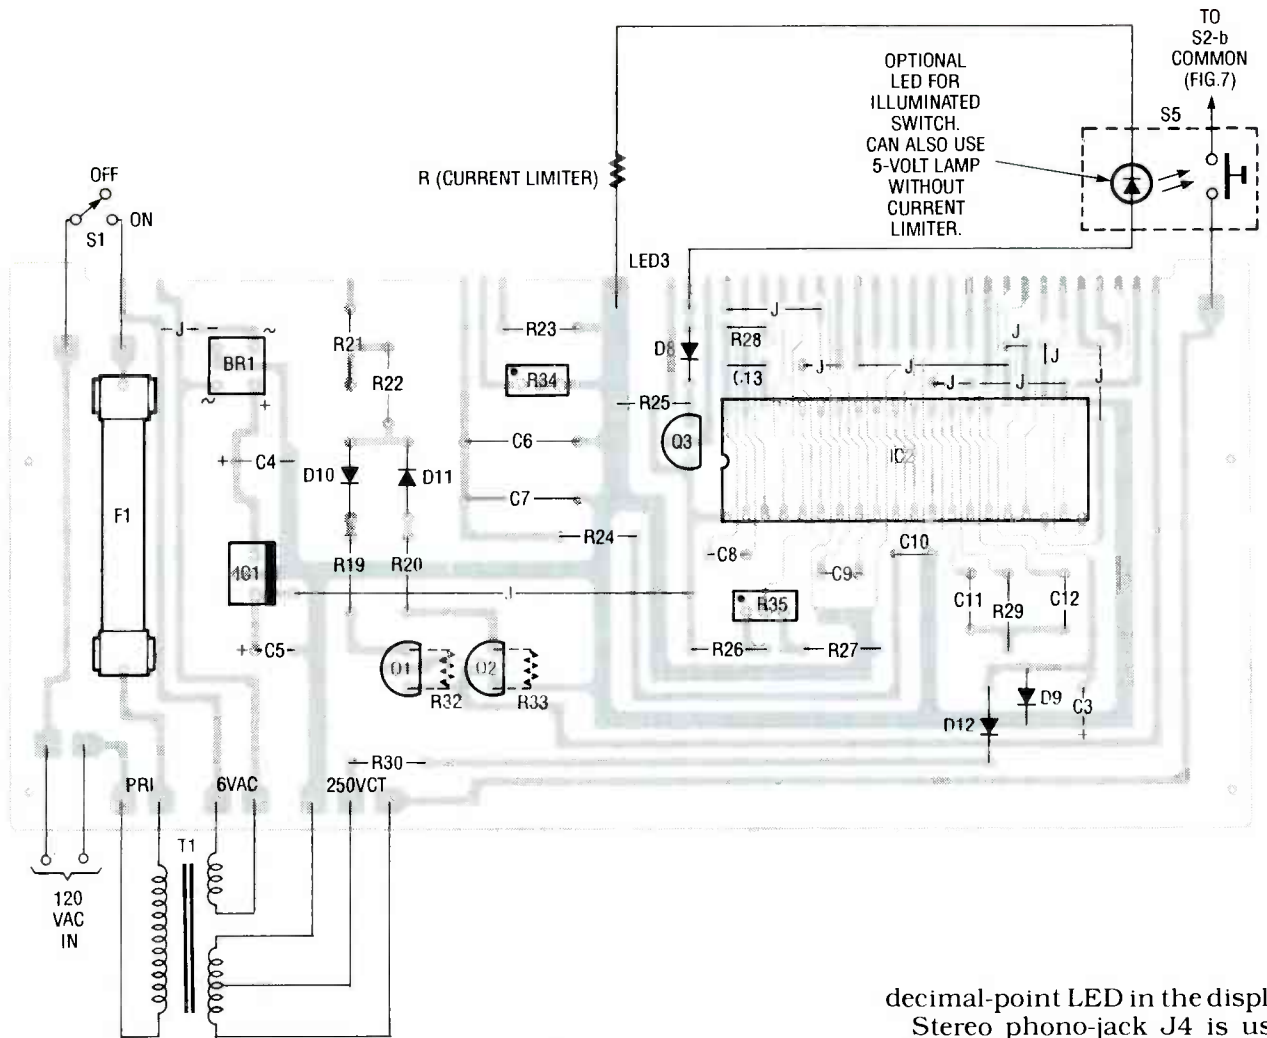

FIG. 6—ALL COMPONENTS ON THE MAIN BOARD are mounted on the component side except for R32 and R33 which must be tack-soldered to the solder side of the board.
- Two signal labels, LO_{JN} and V_{TUNE1}, should be reversed in IC23 of the signal-processing block diagram (Fig. 6).
Almost all components, except the power transformer and switches S1 and S5, are mounted on the PC boards. Follow the parts layouts for the main and display boards, Figs. 6 and 7, respectively. Solder all jumpers on both boards first, followed by the fuse, resistors, trimmers, diodes, capacitors, transistors, regulator IC1, and sockets for the 7-segment displays and IC2, in that order: do not put IC2 in its socket just yet. Prepare switches S2–S4 by soldering 1-inch lengths of sol-